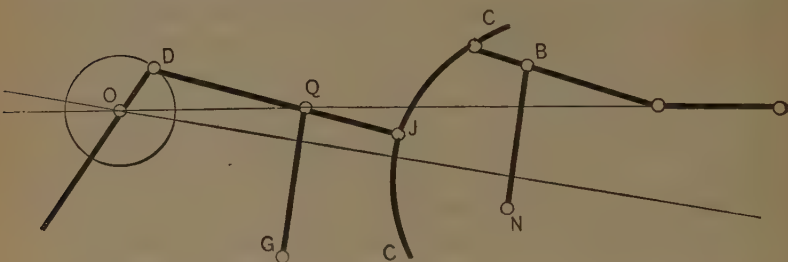

Fig. 169. Fink Valve Gear.
A. Yes, the Pius Fink motion, the most simple of all, shown in outline in Fig. 169. The radius rod is moved up and down by a bell-crank lever. *O* is the driving axle, *OR* the crank, and *D* the eccentric, 180° from the crank; that is, directly opposite it; the sheave being fastened immovably to the link *CC*. A sustaining arm *GQ* is pivoted below, at *G*, at such a